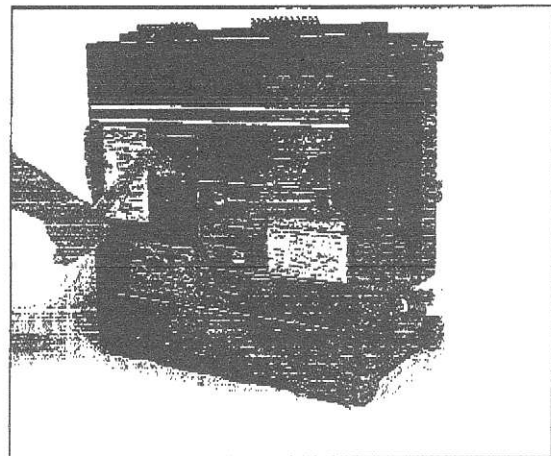

Fig. 31 Manual Charging of Closing Spring
A. Manual Charging of Closing Spring (Fig. 31)